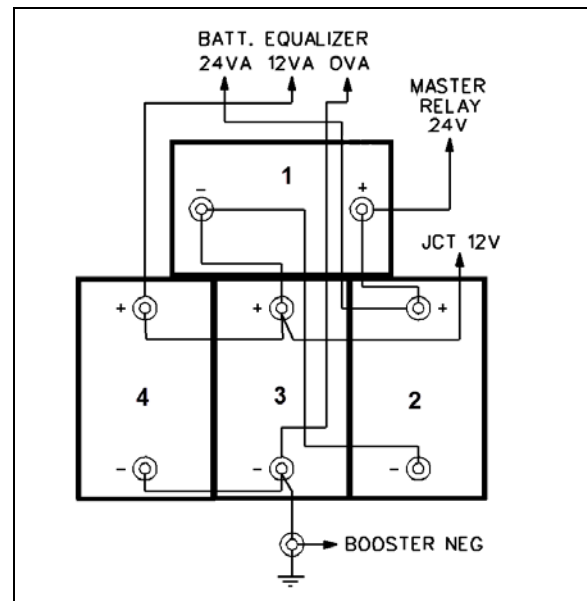

FIGURE 24 : H3 SERIES BATTERY CONNECTIONS (STANDARD ACID-LEAD GROUP 31)
The vehicle is provided with four (4) maintenance-free 12 volt heavy-duty batteries connected in series-parallel (FIGURE 24)